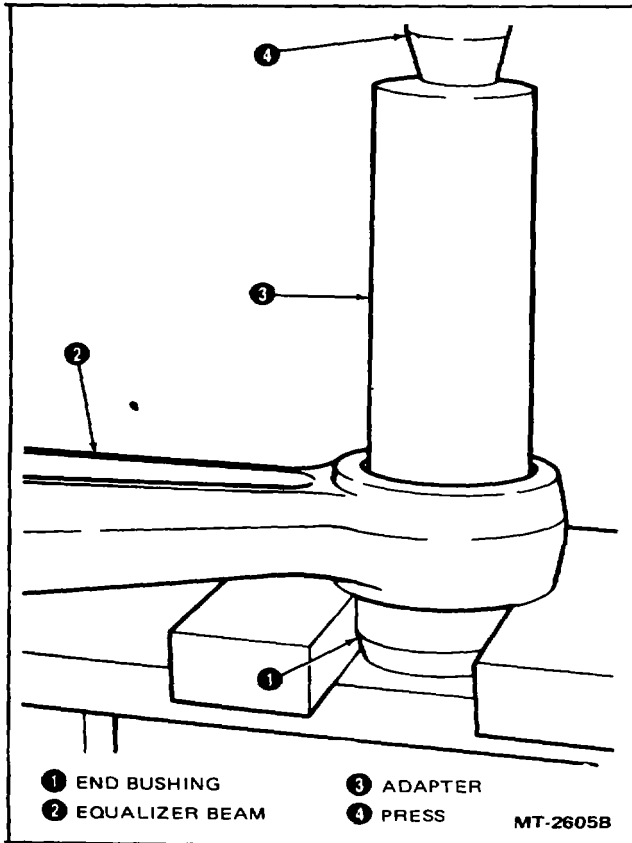

Figure 7 - Removing Equalizer Beam End Bushing
- Support beam in press. Using a piece of standard tubing (which will contact the bushing sleeve) as an adapter, press the bushing from the beam. See Figure 7.